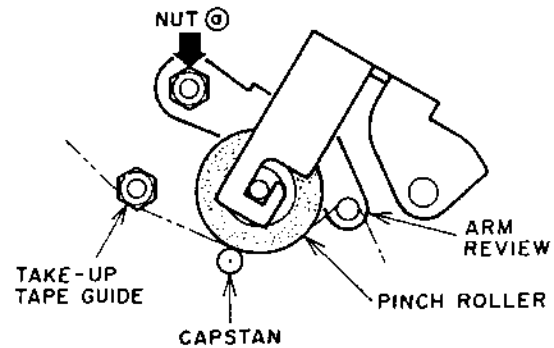
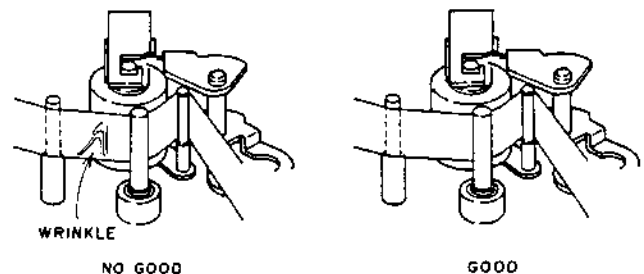

Fig. 5-6
Fig. 5-8
- 2) Turn the REVIEW ARM height nut ② so that the edge of the tape barely touches the lower part of the TAKE-UP TAPE GUIDE without any curl or wrinkle between the TAKE-UP TAPE GUIDE and the CAPSTAN SHAFT as shown in Fig.5-6 to Fig.5-8.